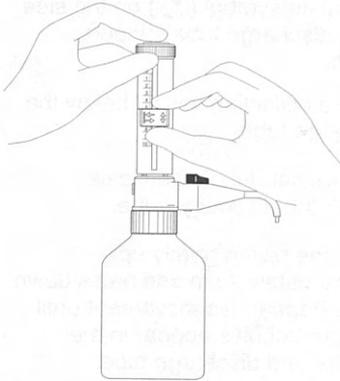

Fig. 6
- Hold the cylinder casing down (Fig. 6).